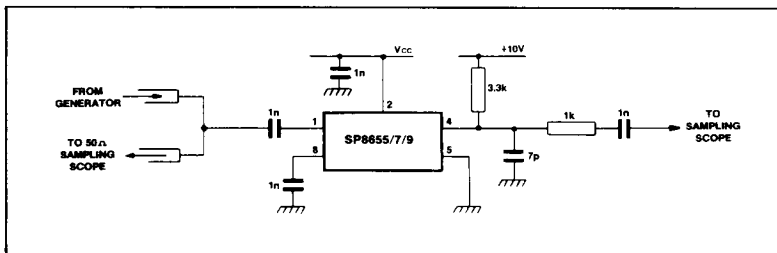

Fig.5 Test circuit
2. The dynamic test circuit is shown in Fig.5.
6. The rise time of the open collector output waveform is directly proportional to the load capacitance and load resistor value. Therefore the load capacitance should be minimised and the load resistor kept to a minimum compatible with system power requirements. In the test configuration of Fig. 5, the output rise time is approximately 20ns and fall time is typically 10ns.